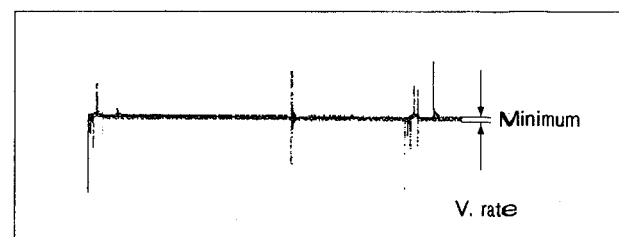

Fig. 3-1-10 Y NR level
- 3) Adjust R214 for minimum DC setup difference, as in Fig. 3-1-10.